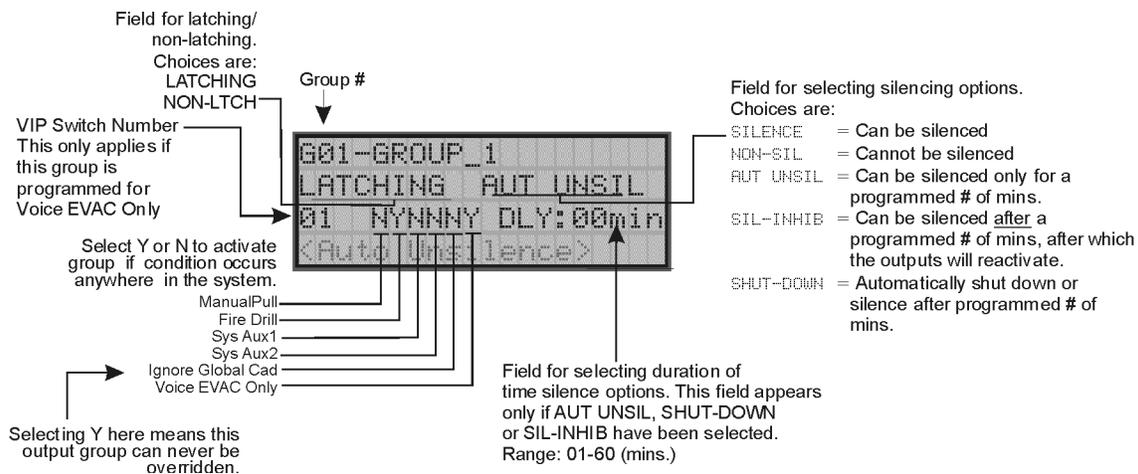

Figure 7-8 Group Properties Screen Programming Options
- Define output group type as voice or non-voice. See option for Voice EVAC Only in Figure 7-8.
AUT UNSIL	Auto Unsilenced. If this option is selected, the output group can be silenced for a programmed time-frame. If the condition that caused the output to activate has not cleared during the time-frame, the output reactivates. If you select this option, select the time-frame in the DLY: field. Range is 00-60 minutes. (See Figure 7-8 for location of field.)
SIL-INHIB	Timed Silence after Inhibit. If this option is selected, the output group must be audible for a programmed number of minutes before it can be silenced. If the condition that caused the output to activate has not cleared during the time-frame, the output can be silenced. If you select this option, select the timeframe in the DLY: field. Range is 00-60 minutes. (See Figure 7-8 for location of field.)
SHUT-DOWN	If this option is selected, the output group will automatically silence (shut down) after the programmed time period. If you select this option, select the timeframe in the DLY: field. Range is 01-60 minutes. (See Figure 7-8 for location of field.)
You can select whether an output group will respond to various system-wide occurrences. (See Figure 7-8 for location of this field.)